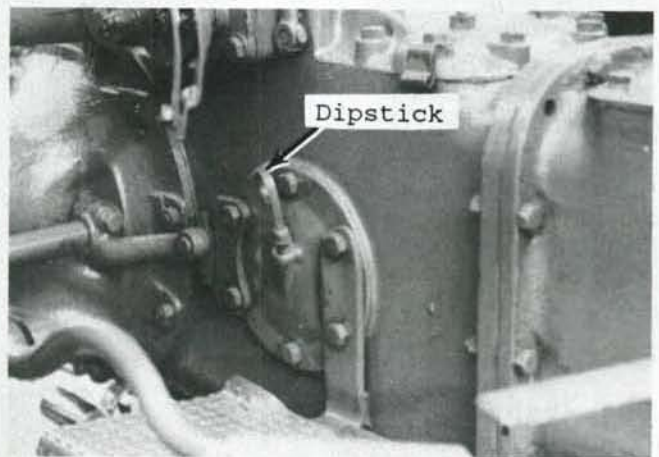

Fig. FO3—A dipstick, located in inspection cover, is used to check transmission oil level.
3. On 9N, 2N and 8N tractors, the transmission and differential housings serve as a common sump for the lubricating and hydraulic system fluid. The fluid level is checked by removing the level check plug located on the lower right side of the transmission housing on some early models, or by a dipstick located in the inspection plate on right side of differential housing on later models (Fig. FO3).